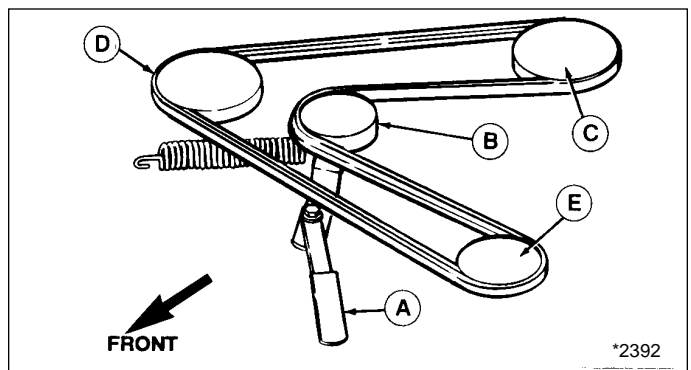

Figure 37. Belt Pattern - 34" Mower
4. Remove old belt from arbor pulleys and replace with new belt. Make sure V-side of belt runs in all arbor pulley grooves and flat side of belt runs against idler pulley. See figure 37 for belt pattern